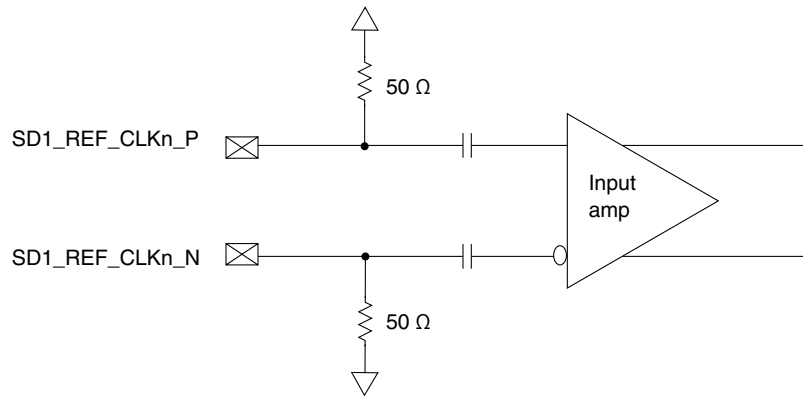

Figure 73. Receiver of SerDes reference clocks
- The SD1_REF_CLKn_P and SD1_REF_CLKn_N are internally AC-coupled differential inputs as shown in Figure 73. Each differential clock input (SD1_REF_CLKn_P or SD1_REF_CLKn_N) has on-chip 50-Ω termination to SGNDn followed by on-chip AC-coupling.
- For an external DC-coupled connection, as described in Figure 73, the maximum average current requirements set the requirement for average voltage (common mode voltage) as between 100 mV and 400 mV.